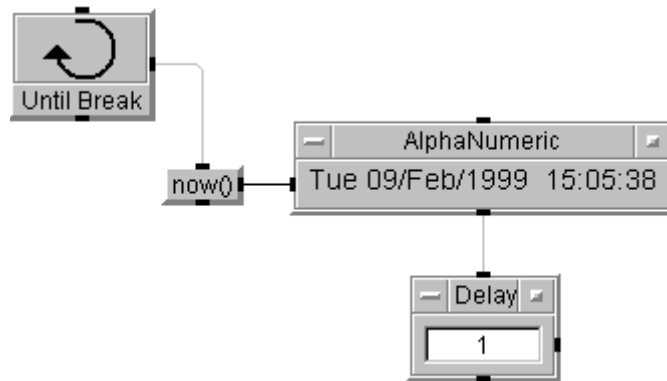

**Figure 8-11. A Simple Continuous Loop**
**Continuous Loops** To generate a continuous loop, you can use an `Until Break` object as shown in the program in Figure 8-11. The `Delay` object controls the program to update once per second. A better approach is to replace the `Until Break` with an `On Cycle`, which can generate a container with any delay setting to drive the `now()` object. You can set the `AlphaNumeric` display format in its `Properties` dialog box on the `Number` tab.